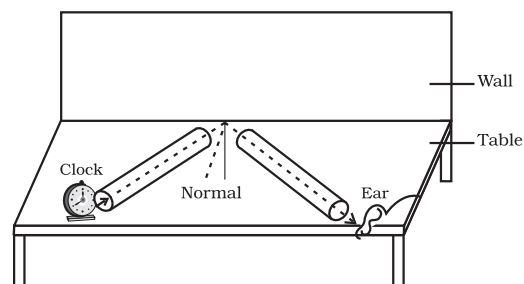

Fig. 11.9: Reflection of sound
- Take two identical pipes, as shown in Fig. 11.9. You can make the pipes using chart paper. The length of the pipes should be sufficiently long as shown.